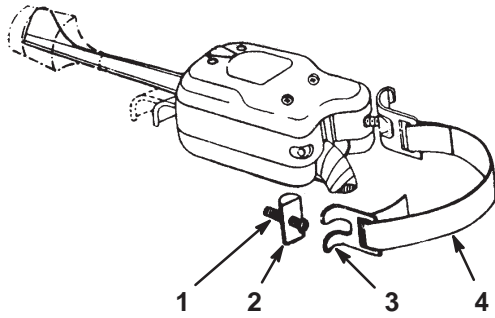

Figure 2
D. Insert one end of the strap through the clip of the signal controller and bend the strap 1 inch (25 mm) from the end. Catch the clip under the anchor on the controller (Fig. 2).